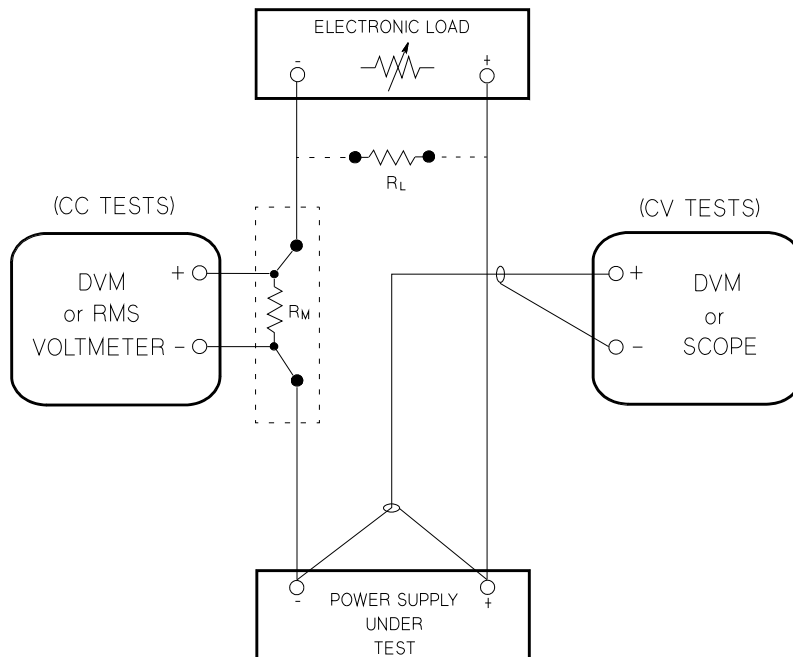

Figure 1-1 Performance verification test setup
To eliminate output current measurement error caused by the voltage drops in the leads and connections, connect the current monitoring resistor between the (–) output terminal and the load as a four-terminal device. Connect the current-monitoring leads inside the load-lead connections directly at the monitoring points on the resistor element (see R_M in Figure 1-1).
- 1 Turn off the power supply and connect a digital voltmeter between the (+) and (–) terminals of the output to be tested as shown in Figure 1-1.
- 1 Turn off the power supply and connect a digital voltmeter between the (+) and (–) terminals of the output to be tested as shown in **Figure 1-1**.
- 1 Turn off the power supply and connect the output to be tested as shown in **Figure 1-1** to an oscilloscope (AC coupled) between (+) and (–) terminals. Set the oscilloscope to AC mode and bandwidth limit to 20 MHz. Connect a resistive load (7.5 Ω) as shown in **Figure 1-1**.
- 1 Turn off the power supply and connect the output to be tested as shown in Figure 1-1 with an oscilloscope. Operate the electronic load in constant current mode.
- 1 Turn off the power supply and connect the output to be tested as shown in **Figure 1-1** with the digital voltmeter connected across the 0.01Ω current monitoring resistor (R_M).
- 1** Turn off the power supply and connect the output to be tested as shown in **Figure 1-1** with the digital voltmeter connected across the current monitoring resistor (R_M).